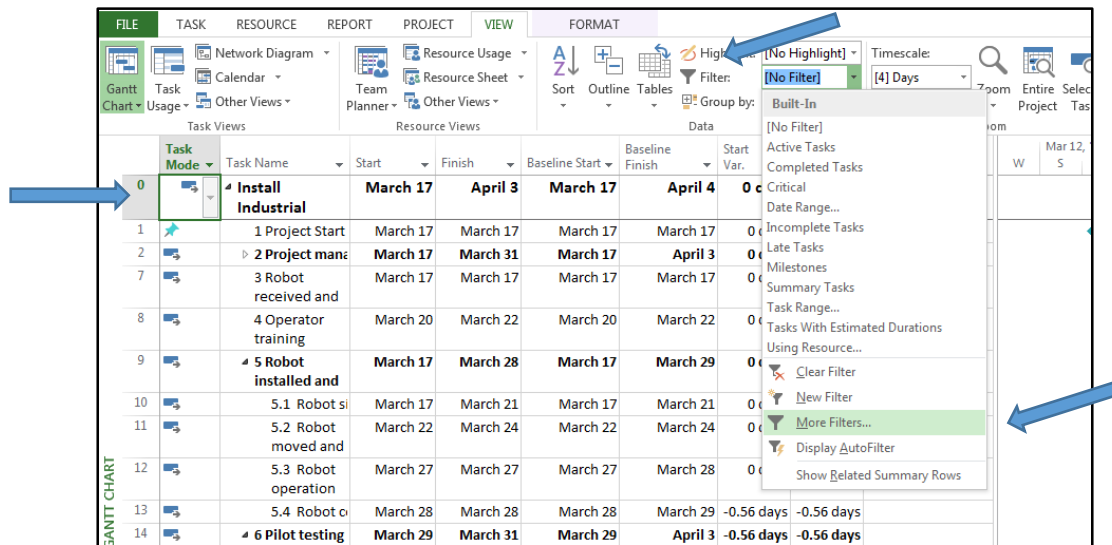

Figure 48
- To see which specific tasks are over budget, in the View tab, click on the Filter down arrow, choose More Filters (Figure 48) from the dropdown and then click Cost Overbudget. To see which tasks have more work than planned, select Work Overbudget.